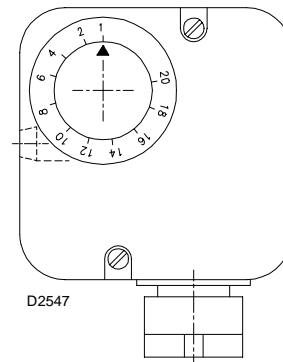

Fig. 38
- Adjust the high gas pressure switch to the upper limit of the scale (Fig. 38).
Adjust the high gas pressure switch after having performed all other burner adjustments with the maximum gas pressure switch set to the end of the scale (Fig. 38).